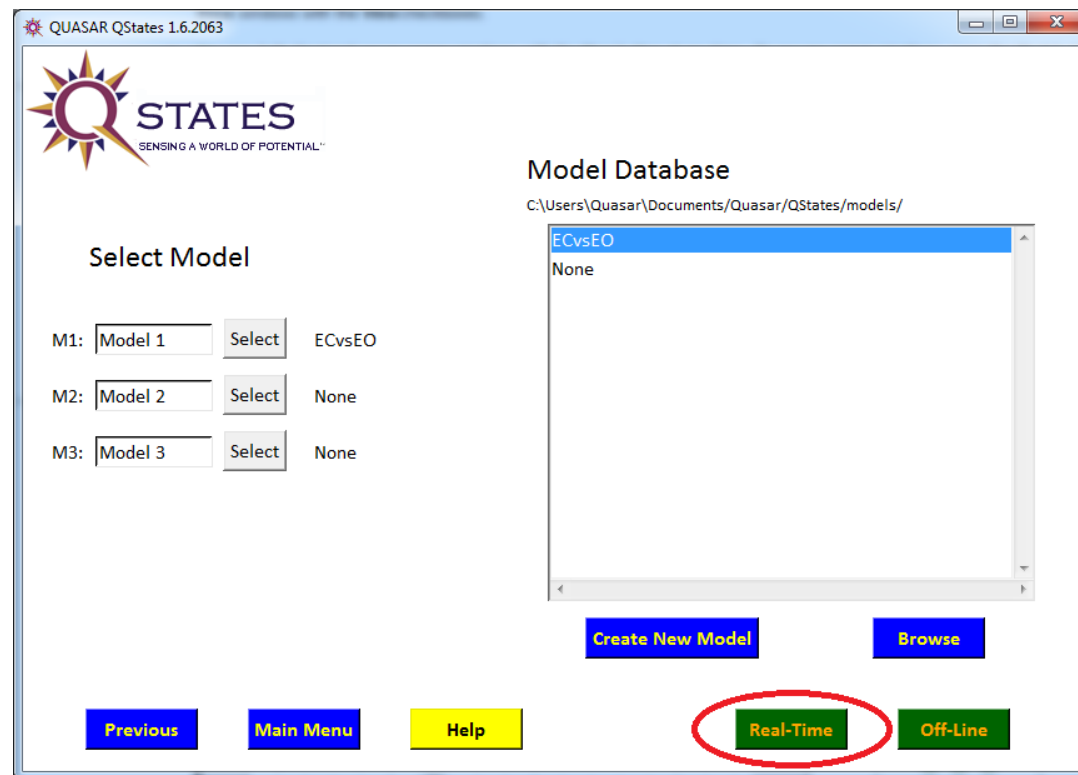

Figure 41 – Q-States Model Selection
- Select 1, 2, or 3 models from the model database, then press the “Real-Time” button, circled in red in Figure 41.